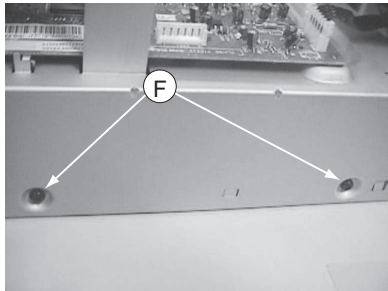

Figure 6
- 2) Loosen 2 screws "F" as shown in figure 6.